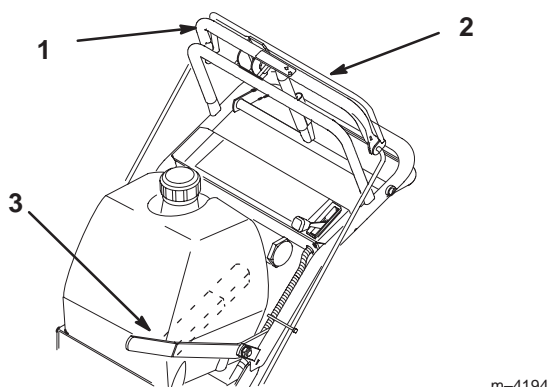

Figure 17
1. Pull on the upper control bar to stop the machine (Fig. 17).
2. Hold the bail against the upper control bar (Fig. 17).
3. To engage blade(s), push the blade control lever firmly forward, until it latches over-center (Fig. 17).
1. To disengage the blade(s), pull blade control lever rearward, all the way (Fig. 17).